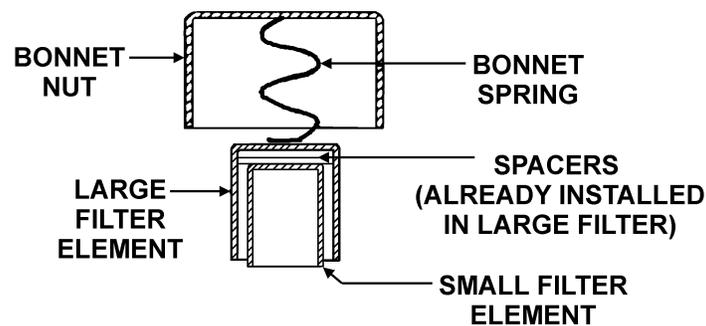

Figure 2
- Remove the metal shield cover. Unscrew the bonnet nut and place the small filter element inside the large filter element in the Deposit Collector as shown in Figure 2. The open ends of both filter elements face the seat. It is important that the filter elements are seated properly in the Deposit Collector.